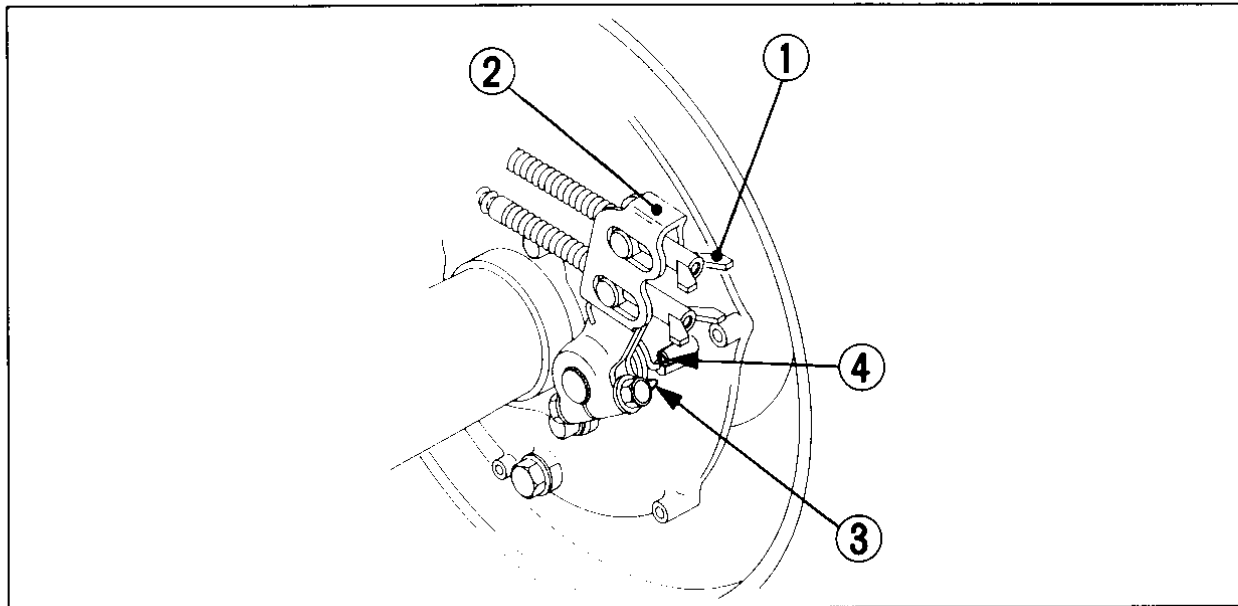

Fig. 4-30
When the brake is applied, an arrow (3) attached to the brake arm (2) moves toward a reference mark (4) on the brake panel (see Fig. 4-30).